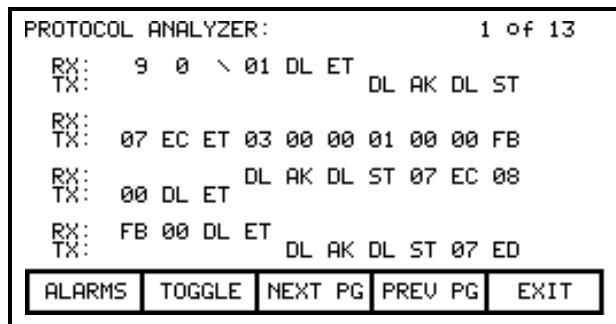

Figure 84 – Mixed Format Displayed
- the data shown as a mixture (Figure 84) of: